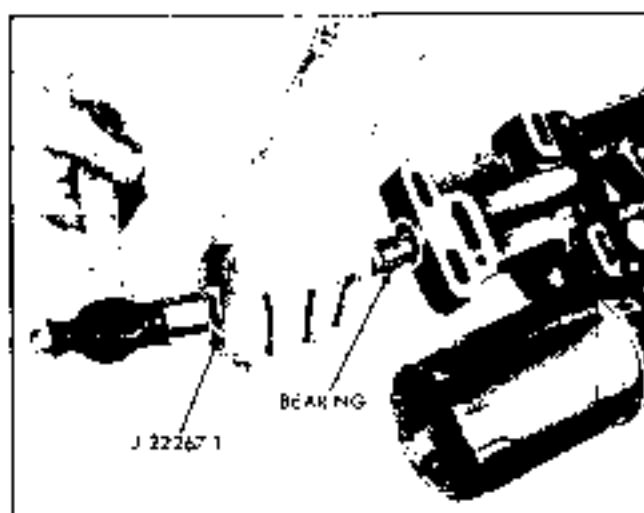

Fig. 6-42 Installing Bearing
7. Use tool J 22267-1 and install bearing (Fig. 6-42).